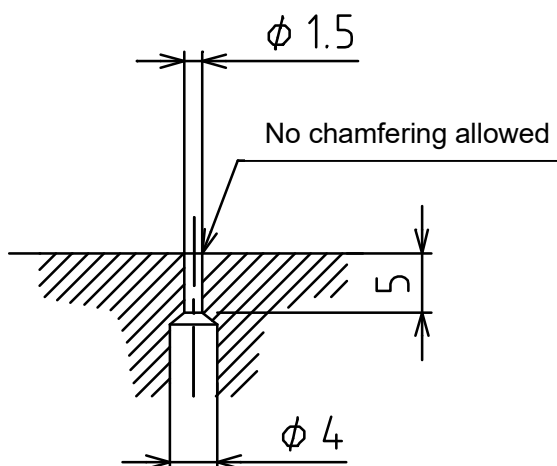

Fig. 40
- 12) As to the nozzle used for seating check, it is recommended that a 1.5 or 2 mm dia. nozzle should be machined direct onto the seating surface as shown in Fig. 40 below. The nozzle tip should not be chamfered to prevent the differential pressure range from becoming narrow. For other designs, contact us separately. Also, where a back pressure type nozzle is used, refer to page 10.